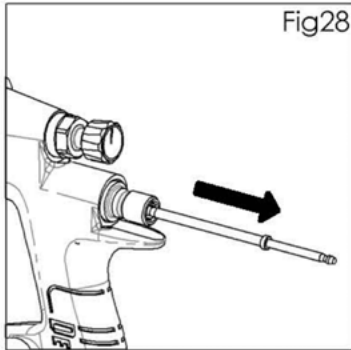

Fig 28
3. Remove fluid needle (24) from gun body. (See fig 28).